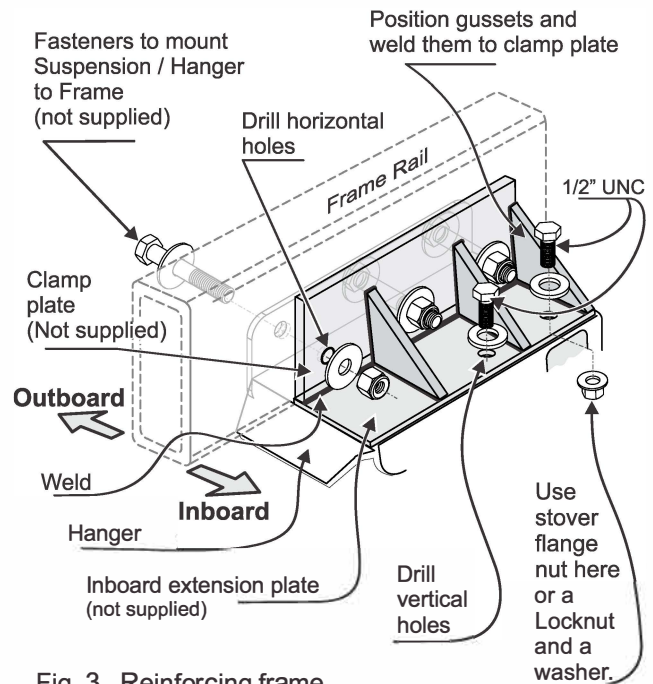

Fig. 3 Reinforcing frame
5. Bolt hanger side plate: ⁽³⁾⁽⁴⁾ (fig. 3): Use holes in the hanger side plate as a template (3 or 2 holes, depending on the model #). Drill horizontal holes to the side of frame at each side of trailer. Use ½" UNC (grade 5 minimum) bolts, lock-nuts, and washers to mount hangers to frame (fasteners are not included). Torque mounting bolts to 70-75 ft.lbs (95-102 N.m).
6.a) Bolt hanger top plate to frame⁽³⁾: Hanger top plate must be in full contact with the frame so that it can be bolted to frame. Use holes in the hanger top plate as a template and drill 2 vertical holes. In case frame is not wide enough, hanger top plate can be bolted to cross members of frame instead (as long as those crossmembers are strong enough). If crossmembers exist but there is a gap between bottom surface of crossmembers and top of hanger then steel spacers (plates) should be used to fill up the gap. Drill common holes to bolt hanger to crossmembers. Use ½" UNC (grade 5 minimum) bolts, lock-nuts, and washers to mount hanger top plate to frame (fasteners are not included). Make sure bolts are long enough the entire length of nuts but they are not too long to interfere with other parts of suspension in the hanger. If trailer does not have crossmembers (but frame main beam itself is sufficiently strong to overcome torsion of frame) then fabricate an inboard extension and attach it to the frame. Reinforce it by gussets as necessary (fig. 3) to make it rigid.
(3) Welding the hanger is optional (instead of bolting it), but be aware that all paint around welding edges need to be ground off prior to welding. Protect Aeon® rubber spring from extreme heat generated during welding.
(4) When bolting the frame be aware that hollow (tubular) sections of frame may not be sufficiently strong to withstand compression of bolted joints and therefore may collapse unless they are reinforced; consider fabricating a bracket similar to the one shown in fig 3 which has a clamp plate to go between the nut/head of bolt and tube. Such bracket must be rigid enough to allow you to apply a full torque to bolts.